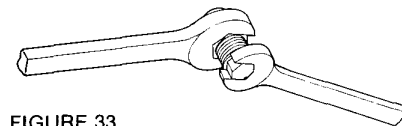

FIGURE 33
**Fig. 33** shows the removal of the orifice from the orifice fitting. A back up wrench is necessary.